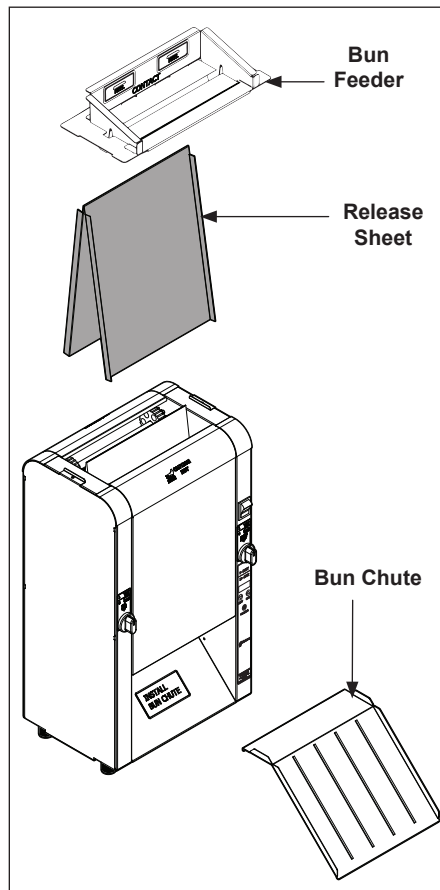

Figure 11. Remove Accessories
2. Put on heat resistant gloves. Remove the Bun Feeder, Release Sheet, and Bun Chute (Figure 11). Set these item aside.
2. Put on heat resistant gloves. Remove the Bun Feeder, Release Sheet, and Bun Chute (Figure 11). Set these items aside.